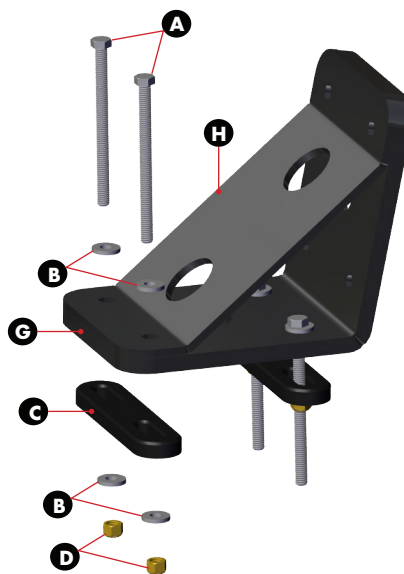

Figure 2
STEP 4 Install the **Adapter Plate Brace H** into place and then install the rear two **All-Thread Bolts A** through a **Washer B**, the **Adapter Plate Brace H**, **Adapter Plate G**, **Boat Deck** and a **Backer Plate C**. Then install a **Washer B** and **Lock Nut D** and tighten until snug using a **9/16"** Socket and **Wrench**. **FIG 2**